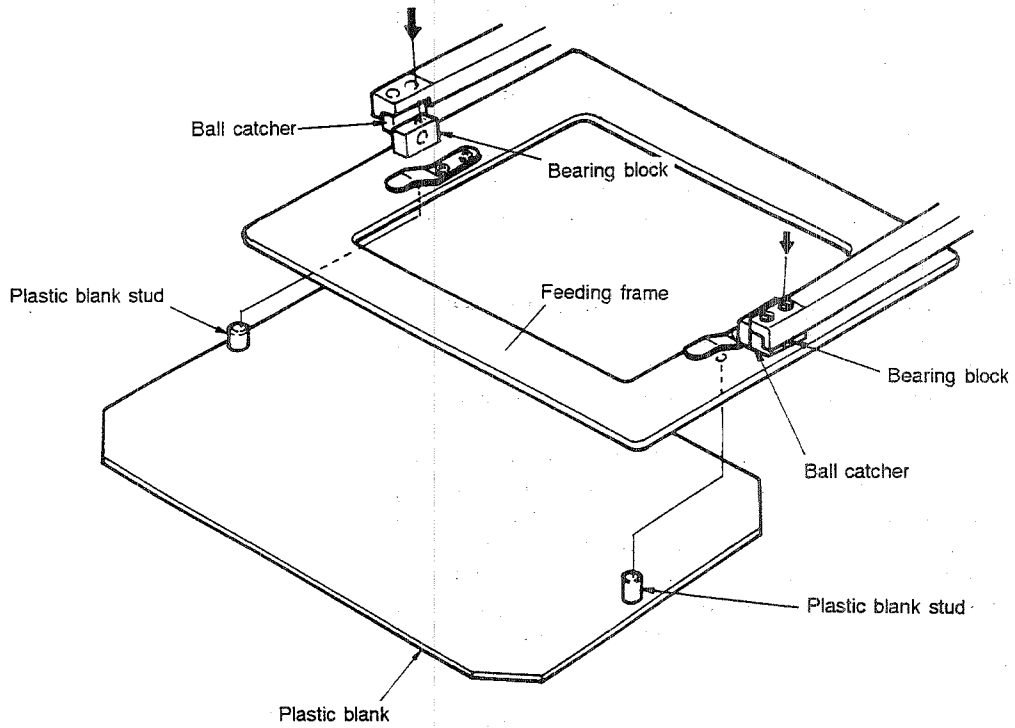
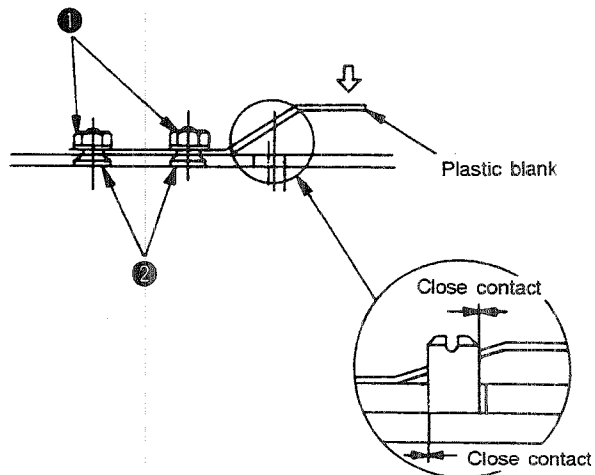

Fig. 5-39-1
Fig. 5-39-2
<ol style="list-style-type: none"> 1) Press the top face of the feeding frame support bearing in the direction of the arrow so that the feeding frame is removed. (Fig. 5-39-1) 2) Loosen nuts ① and setscrews ②. Set the plastic blank within the feeding frame referring to the "STANDARD ADJUSTMENTS (33)-1 A. 2)." (Fig. 5-39-1, Fig. 5-39-2) 3) Adjust the position of the plastic blank so that the plastic blank comes in close contact with the plastic blank stud, while pressing the plastic blank in the direction of the arrow. Then tighten nuts ① so that the plastic blank is temporarily fixed. (Fig. 5-39-2) 4) Remove the plastic blank from the feeding frame, then tighten nuts ① and setscrews ② so that the plastic blank is securely fixed. 	<ul style="list-style-type: none"> o The plastic blank may easily drop from the feeding frame. The plastic blank may fail to be set to the feeding frame.